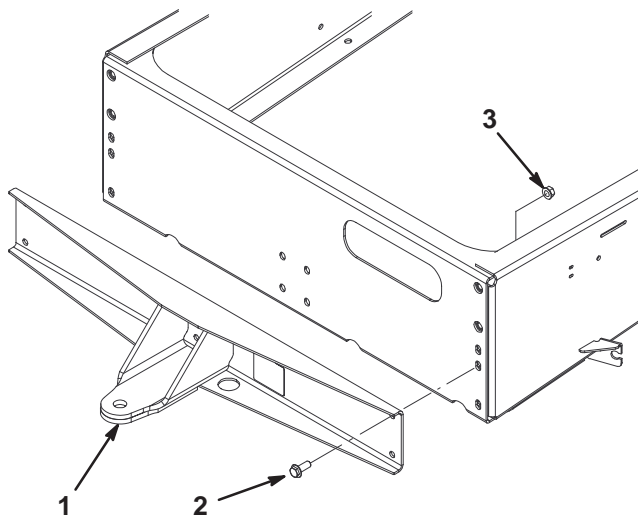

Figure 1
3. Position the heavy-duty hitch on the rear of the frame as shown in Figure 1.
4. Secure the hitch with 8 flange head bolts and locknuts (Fig. 1). Tighten the fasteners to 25 ft.-lb. (34 N·m).